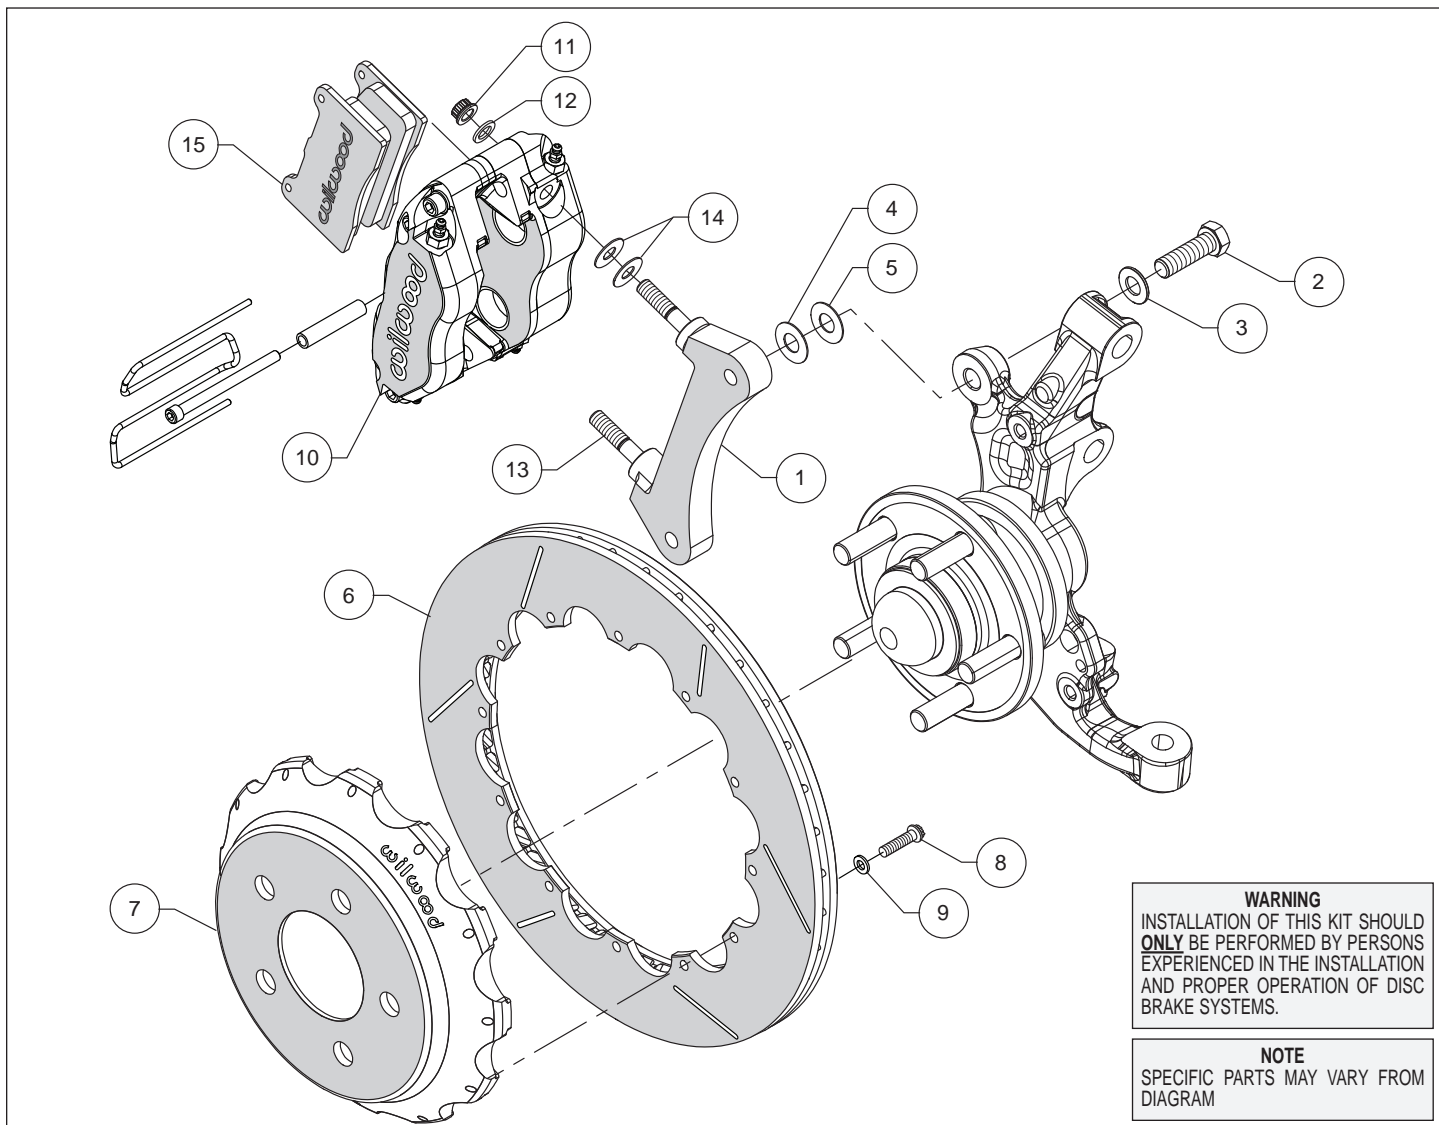
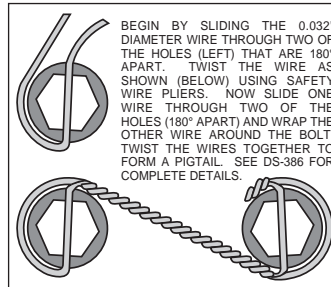

Figure 1. Typical Installation Configuration
Figure 3. Safety Wire Diagram
Assembly Instructions (numbers in parenthesis refer to the parts list and Figure 1 on the preceding pages):
- The caliper mount bracket (1) should initially be installed with clean, dry threads on the mounting bolts. Orient the bracket, as shown in Figure 1 and Photo 1, and install using bolts (2) and washers (3). Initially place one .033" thick shim (4) on each bolt between the bracket and upright, Figure 1. Temporarily tighten the mounting bolts. **NOTE:** *The bracket must fit squarely against the mount bosses on the upright.* Inspect for interference from casting irregularities, machining ridges, burrs, etc. Later, after the caliper alignment has been checked, the mount bolts will be secured using red *Loctite*[®] 271.
- Orient the rotor (6) and the hat (7) as shown in Figure 1 and Photo 2. Attach rotor to hat using bolts (8) and washers (9). Using an alternating sequence, apply red *Loctite*[®] 271 to the threads, and torque to 155 **in-lbs**. Safety wire the bolts using standard 0.032 inch diameter stainless steel safety wire as shown in Figure 3. Refer to Wilwood's data sheet DS-386 for complete safety wire installation instructions.
- Lubricate the caliper mounting studs (13) with lightweight oil. Initially place two .035" thick shims (14) on each stud as shown in Figure 1 and Photo 4. Mount the caliper (10) onto the bracket (1) using lock nuts (11) and washers (12), Figure 1. Temporarily tighten the lock nuts and view the rotor through the top opening of the caliper. The rotor should be centered in the caliper, Photo 5. If not, adjust by adding or subtracting shims (4 and/or 5) between the bracket and the mounting bosses. Once the caliper alignment is correct, remove the bracket mounting bolts one at a time, apply red *Loctite*[®] 271 to the threads, and torque to 60 ft-lbs.
- Insert the brake pads (15) into the caliper with the friction material facing the rotor (6), as shown in Figure 1 and Photo 6. Check that the top of the brake pad is flush with the outside diameter of the rotor, Photo 7. If not, adjust by adding or subtracting shims (14) between the caliper and the bracket. After the caliper pad height is set, torque the caliper lock nuts (11) to 30 ft-lb. Secure the pads in place using the pad clip retainer as well as the center bridge pad retainer tube, bolt, and locknut, Photo 8. The locknut should be snug without play in the bolt or tube. Be cautious not to over tighten.